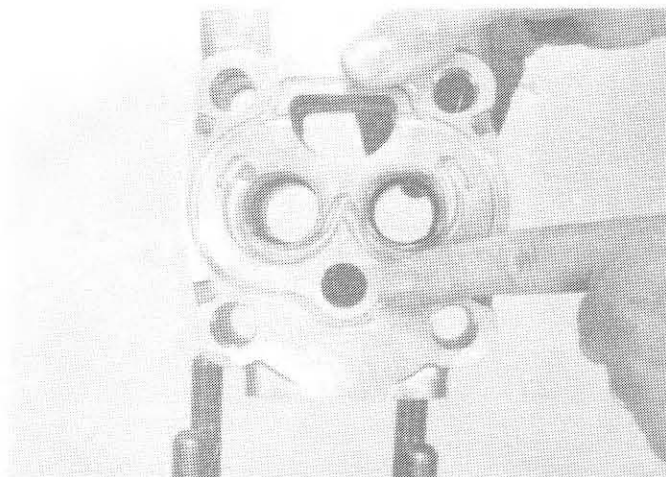

FIG. 27
37. Examine bearing plate (3) carefully. One side has a cast hole extending only part way through which connects with an external discharge port. The plate must be installed with this side facing front gear plate (2). (Fig. 27)